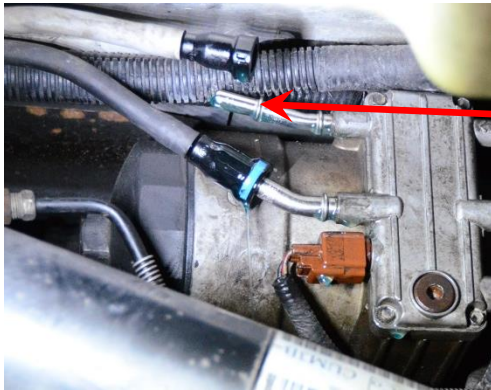

FIGURE 18
- 6B-1. Remove the quick connect end of the fuel return line to the tank from the OE frame mounted fuel pump (figure 18).